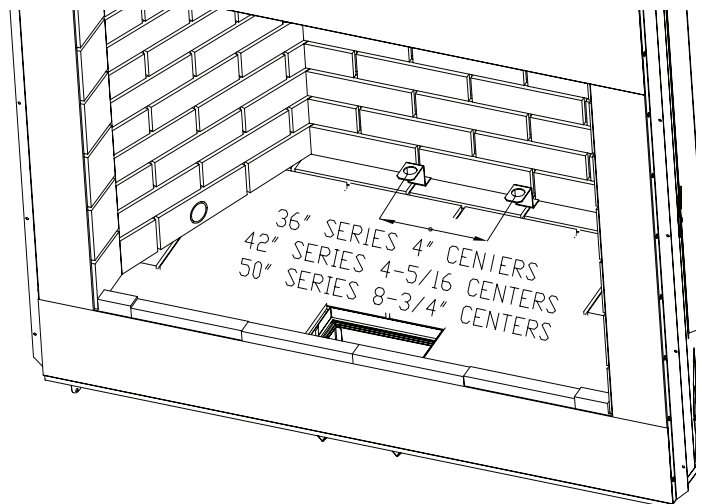

Figure 36 - Installing Grate Retainers
1. Place the provided grate retainers on the hearth as shown in Figure 36. The back of the retainer will be flush with the rear firebrick wall. Mark the center of the hole on the hearth with a marker.